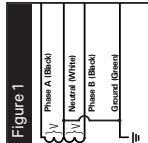

Figure 1
- 120S = 240/120V Split Phase - 1Ø, 3W+Grnd, (Fig 1)
- 127S = 254/127V Split Phase - 1Ø, 3W+Grnd, (Fig 1)
- 220S = 440/220V Split Phase - 1Ø, 3W+Grnd, (Fig 1)